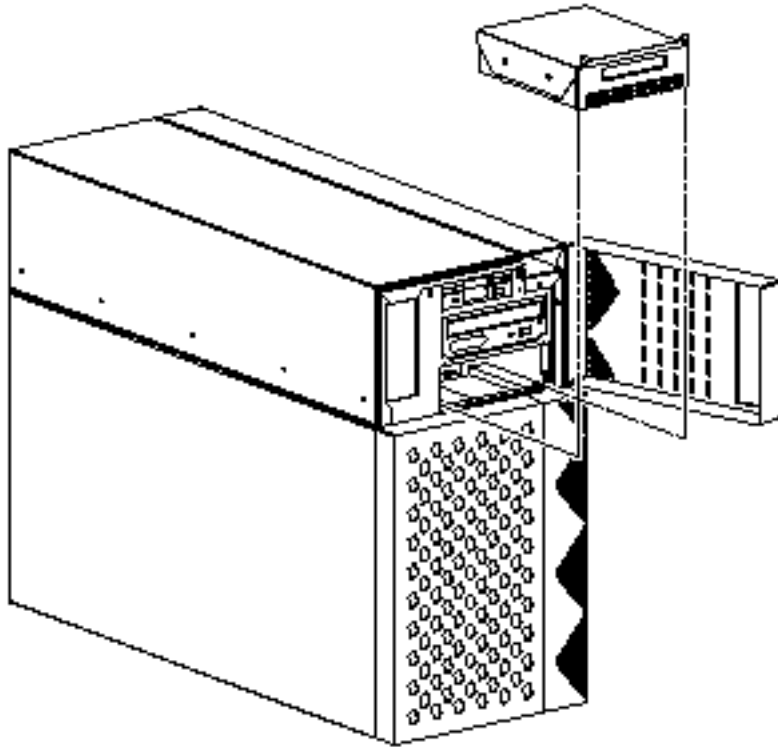

Figure 2-10 Installing the Tape Drive
9. Carefully slide the tape drive into the Netra 150 server (Figure 2-10).
2. Carefully slide the tape drive part way out of the front of the Netra 150's server (Figure 2-10).